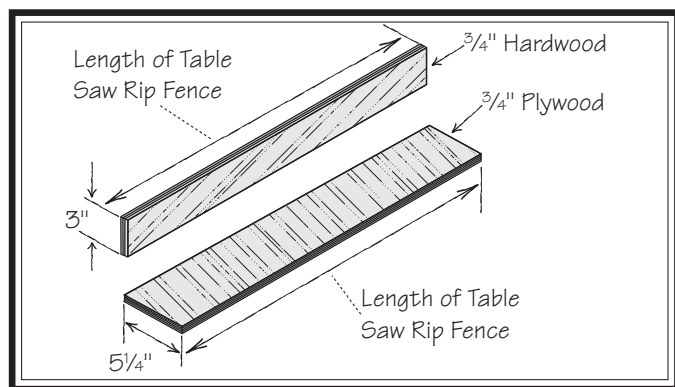

Figure 95. Auxiliary fence dimensions.
1. Cut a piece of $\frac{3}{4}$ " thick plywood $5\frac{1}{4}$ " wide and as long as your table saw fence; cut a piece of $\frac{3}{4}$ " thick hardwood 3" wide and as long as your table saw fence, as shown in **Figure 95**.